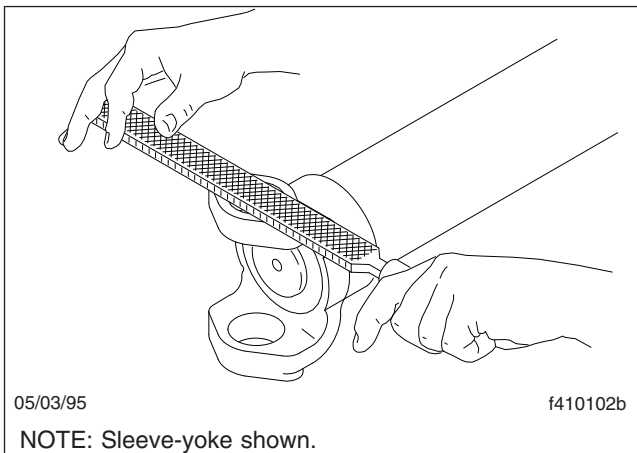

Fig. 4, Removing Burrs From the Machined Surface of a Full-Round Yoke Lug
6. Using a mill file, and holding it flat against the machined surface of the driveshaft yoke lug, file each yoke lug, to remove any burrs or raised metal. See Fig. 4.
3. Using a mill file, and holding it flat against the machined surface of the *full-round* end-yoke lug, file each yoke lug, to remove any burrs or raised metal. See **Fig. 4**.